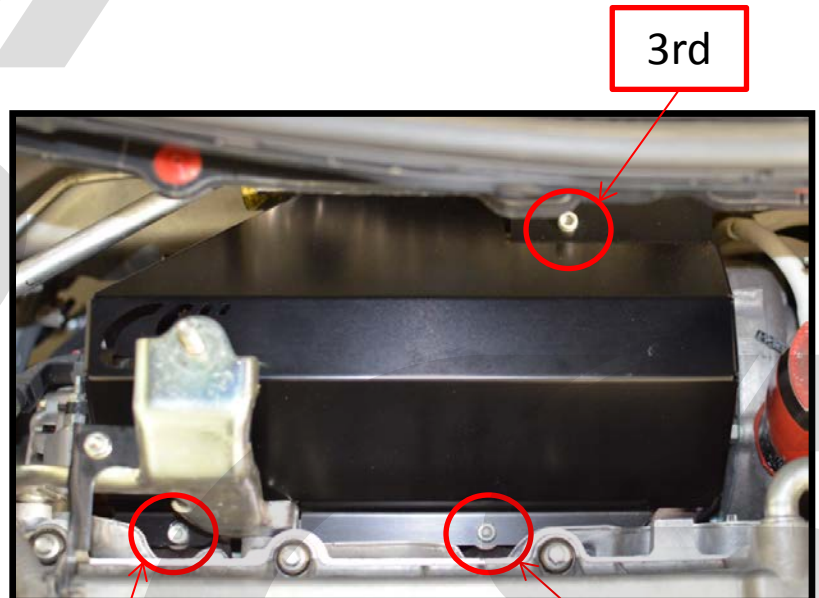

Figure 3b
- c) (For TMIC Setups) Place the CS heat shield into place. Follow the numerical order to secure the three provided M6 socket cap bolts. Torque to 8-10 ft-lbs. Shown in Figure 3b.